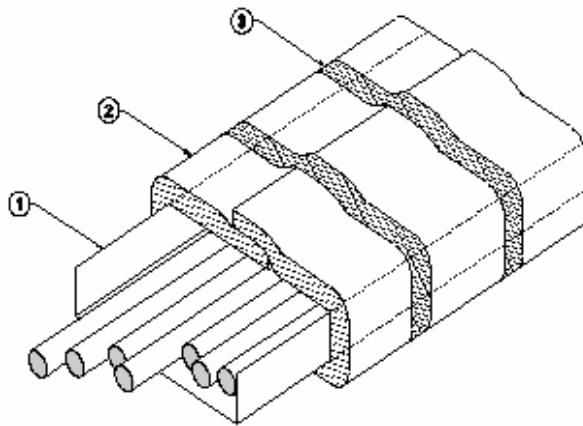

Figure 3. Longitudinal system layout.
- c) Wrap the first length of FyreWrap Cable Insulation around the cable installation as shown in Figure 3 and temporarily secure with the filament tape.